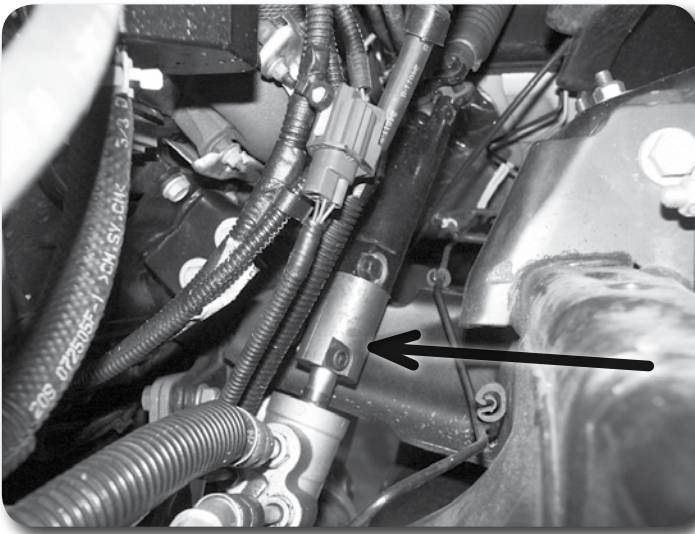

Figure 10
29. Install the provided machined steering extension on the steering rack with a 10mm x 30mm allen head bolt. Torque to 35 ft-lbs. Attach the steering shaft to the steering extension and fasten with the factory bolt **Figure 10**. Torque factory bolt to 30 ft-lbs. Install a 1/4" set screw into the provided new steering extension on the steering rack. Snug the set screw down securely.